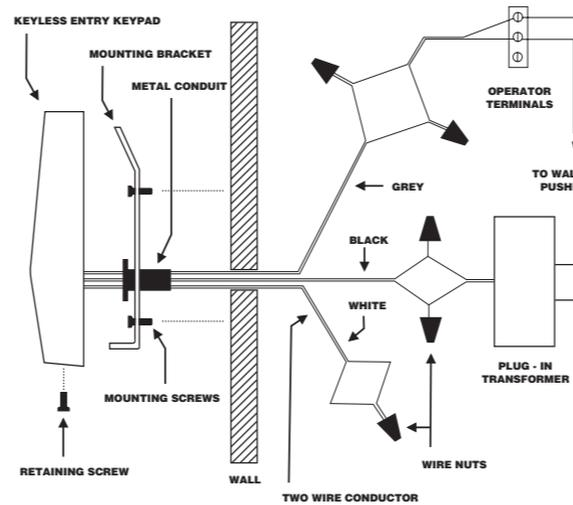

Figure 2
See figure 2 for the following steps:
- b) **For Models 4100-01 and 4100-15** attach Plug-in transformer's two black wires to the black wires coming from the keypad and secure with wire nuts. Pull wire taut and secure with staples so that it does not interfere with the normal operation of the garage door. Plug transformer into a 117 VAC outlet. (See Figure 2).